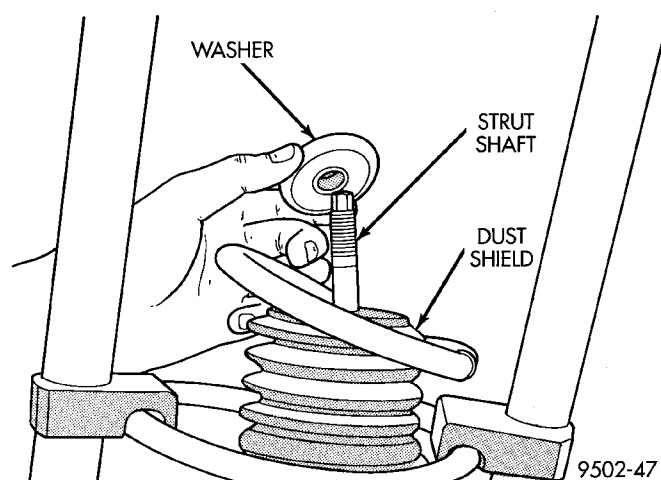

Fig. 30 Washer
(7) Remove the washer from strut shaft, that is between the strut upper mount assembly and dust shield (Fig. 30).
- (5) Install washer on strut shaft with raised edge of washer facing upward (Fig. 30).